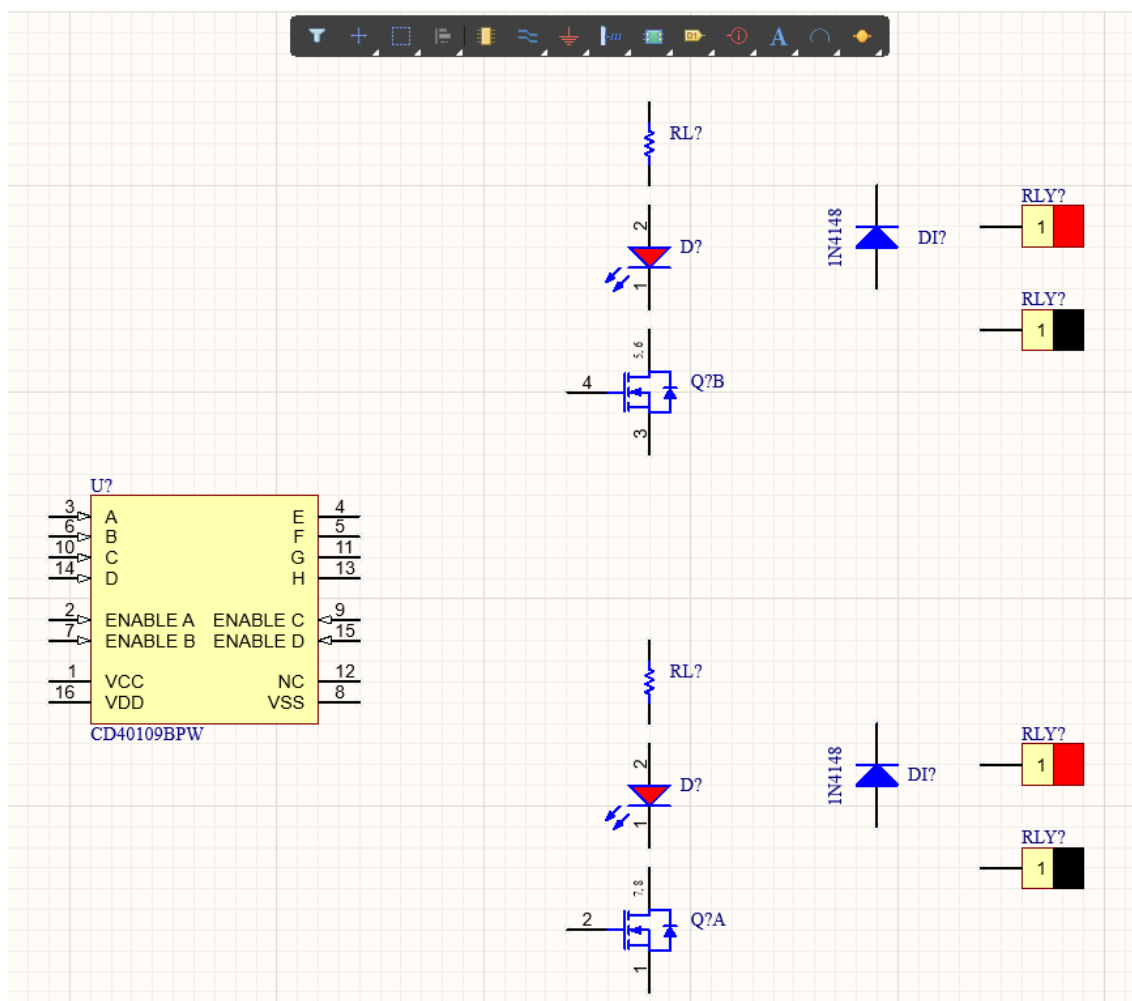

Figure 15. Final Relay I/O Schematic we create with the next steps
28. Open the `Relay_IO.SchDoc`. Use Figure 15 as reference for component placement.